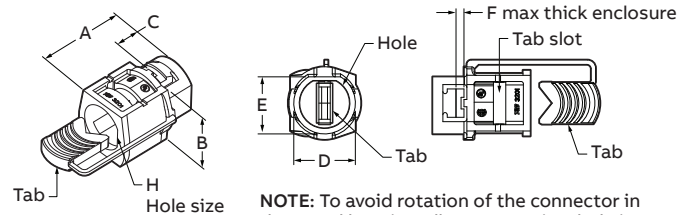
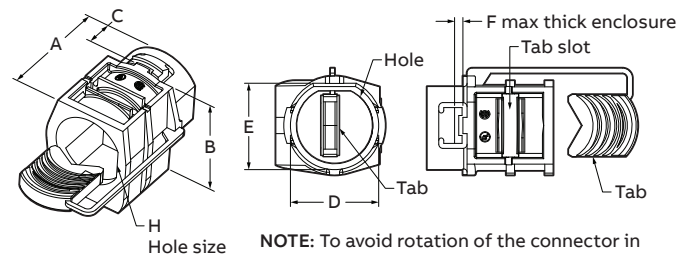
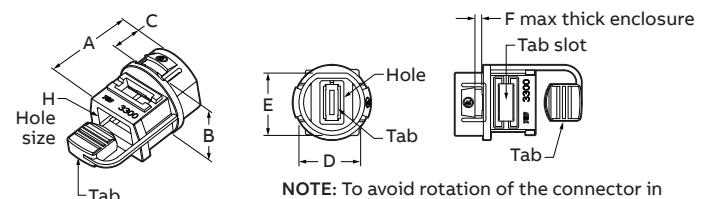

Figure 1 - 3201-TB
Figure 2 - 3202
Figure 3 - 3300
**Part number 3201-TB (Figure 1):**
- For use with multiple (2) 12-2 and 14-2 NM cables.
**Part number 3202 (Figure 2):**
- For use with (2) 14-3, 14-2, 12-2 and 10-2 NM cables.
**Part number 3300 (Figure 3):**